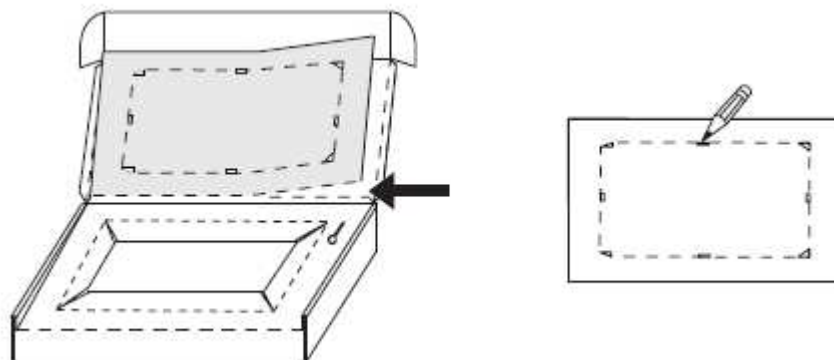

Figure 2-3: Panel cut-out
2. Place the panel cut-out where the operator panel is to be situated, draw along the outer sides of the holes and cut according to the markings (see Figure 2-3).